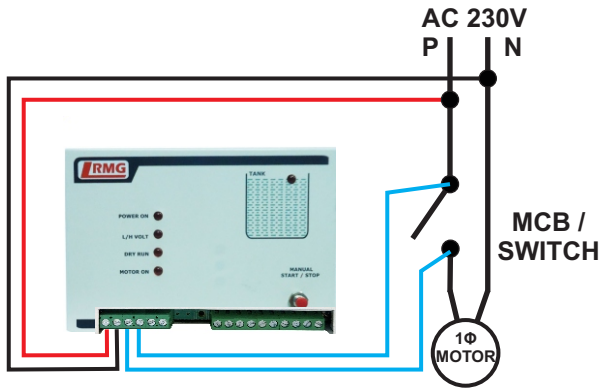
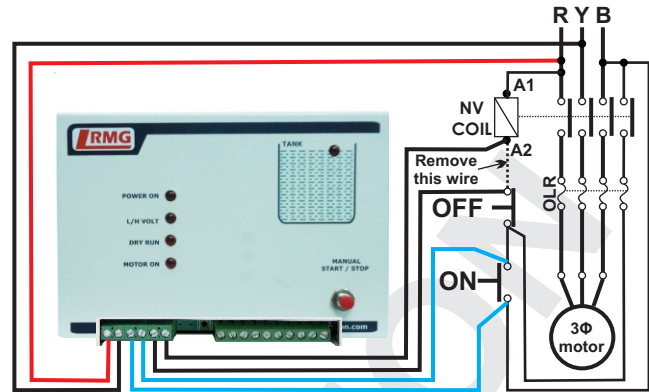
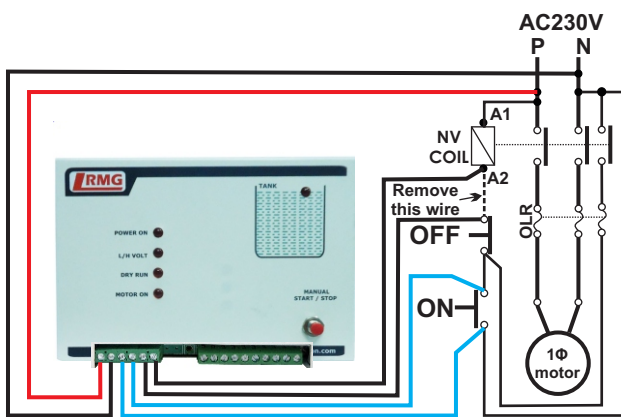

Figure1: 1Φ SWITCH/MCB
Figure2: 3Φ Starter
Figure3: 3Φ Starter
Step 2: As per the model purchased, check the label and connect AC supply (230V / 440 V) to 1st and 2nd terminal of the controller (red and black wire) refer figure. 1 and figure. 2.
Step 3: For switch or MCB, Connect 3rd and 4th terminal of the controller (blue pair wire) to the switch/MCB of the motor in parallel as shown in figure 1.
Step 4: For starter, Connect 3rd and 4th terminal of the controller (blue pair wire) to ON button of starter in parallel and 5th and 6th terminal (black pair wire) to OFF button in series (Refer to figure. 2 and figure. 3)